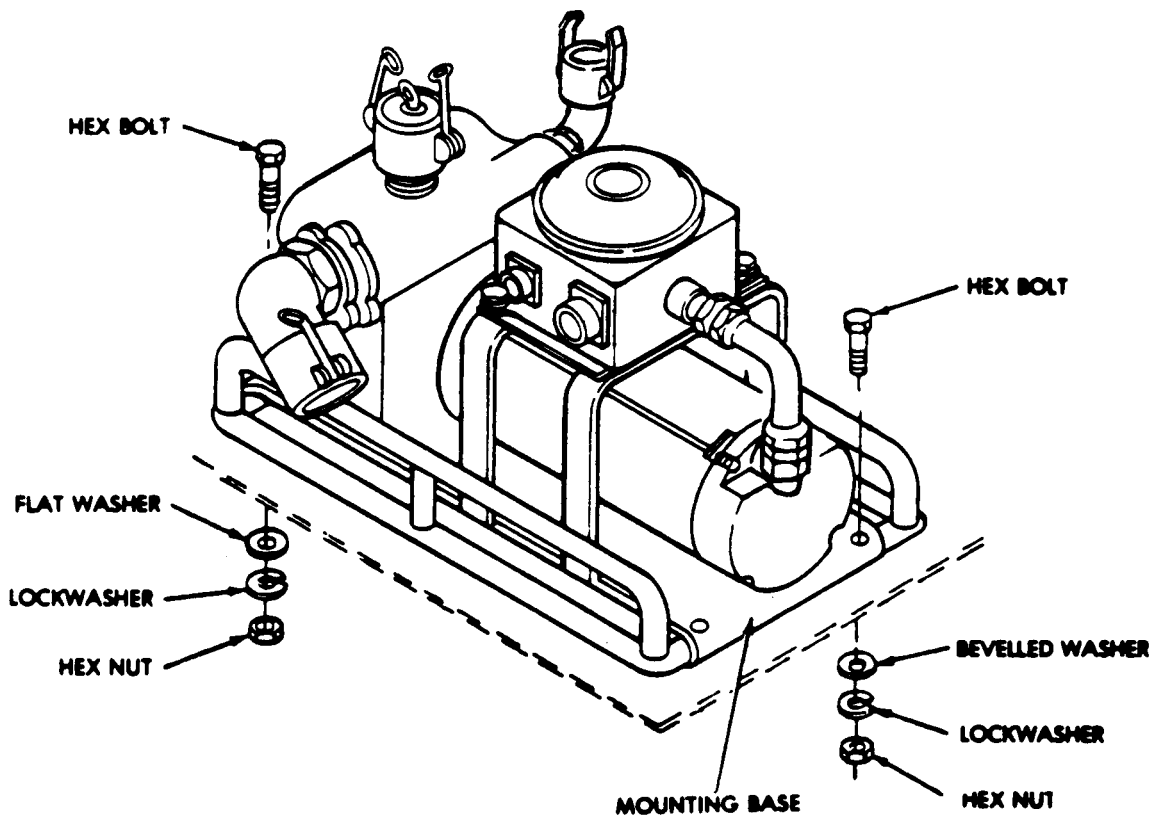

Figure 3-21.1 Pump and Electric Motor Assembly.
(1) Install the pump and motor unit on the mounting base (figure 3-21.1) and secure the mounting brackets to the base with four screws, lockwashers, flat washers and nuts.
(2) Ensure that the drain plug is installed in the pump and tightened.
(3) Install the manifold-to-pump inlet hose on the pump inlet and secure by pushing in on the cam arms.
(4) Position the pump assembly on the frame and secure with four screws, four lockwashers, four flat washers and four nuts.
(5) Install other end of manifold-to-pump inlet hose on the manifold coupling and secure by pushing in on cam arms.
(6) Install filter/separator-to-pump outlet hose on couplings and secure by pushing in on cam arms.
(7) Close drain cock on filter/separator.
(8) Turn lock on vent valve to close position.
(9) Open dispensing valves on tanks.